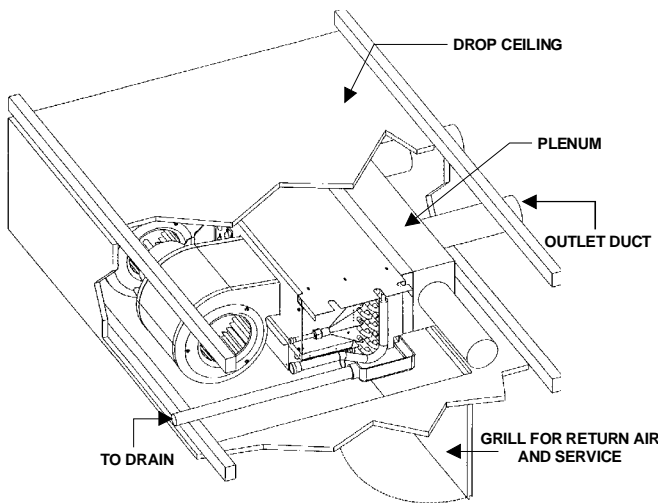

Figure 2
2. Mount the unit in a horizontal position above a dropped ceiling of adequate strength. Refer to Figure 2.